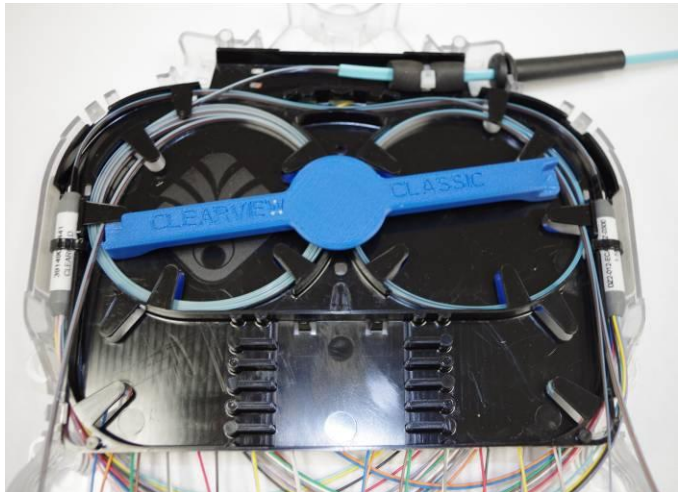

Figure 1
Step 1: Insert the fiber management tool into the center of the slack storage tray (Figure 1).